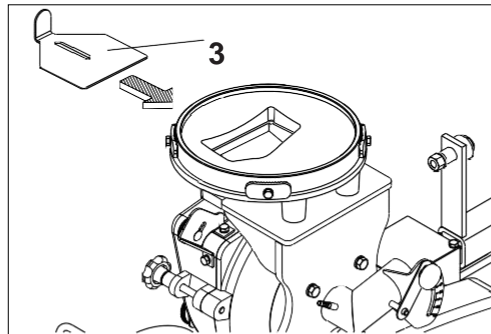
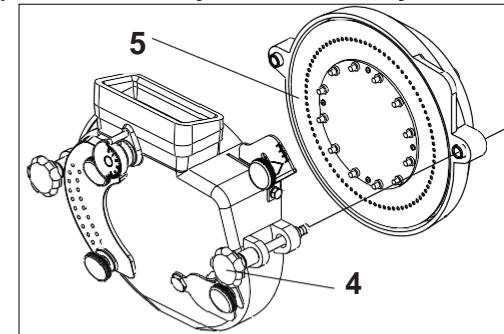

FIGURE 66
FIGURE 67
- Open the gate (2) of the distributor and pull the plate (3) of the deposit. (**FIGURE 66**)
- Close the hatch (2) and the plate (3) again.
- Then release the handle cover (4), removing it completely and the stainless steel perforated disc (5). (**FIGURE 67**)